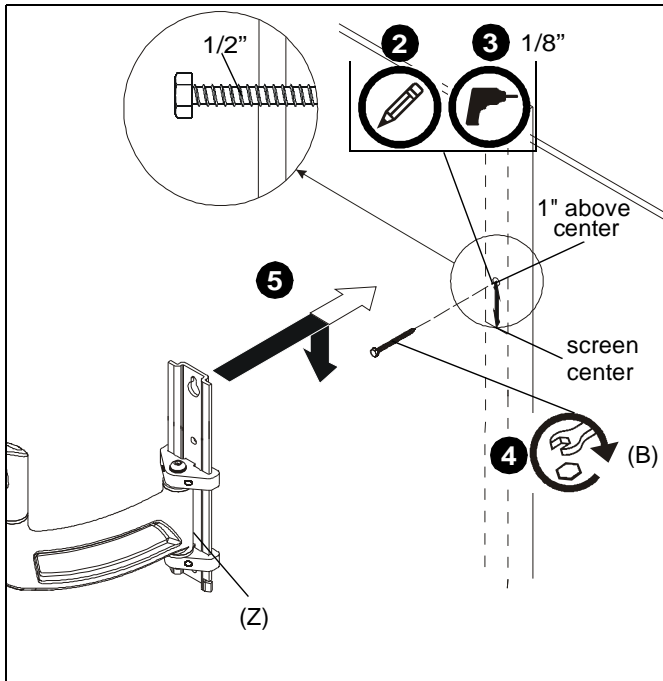

Figure 1
2. Measure 1" above desired center line of display and mark a hole at desired mounting location on the center of wood stud. (See Figure 1)
**IMPORTANT ! :** Use a level to make sure arm assembly (Z) is level when mounted to the wall!
3. Drill one 1/8" diameter hole at location marked in Step 2 with a depth of 1 3/4". (See Figure 1)
4. Install one 1/4 x 2 1/2" lag bolt (B) into hole, leaving screw hanging out 1/2" from the wall. (See Figure 1)
5. Hang arm assembly (Z) onto lag bolt (B) by latching key-shaped hole over top of bolt. (See Figure 1)